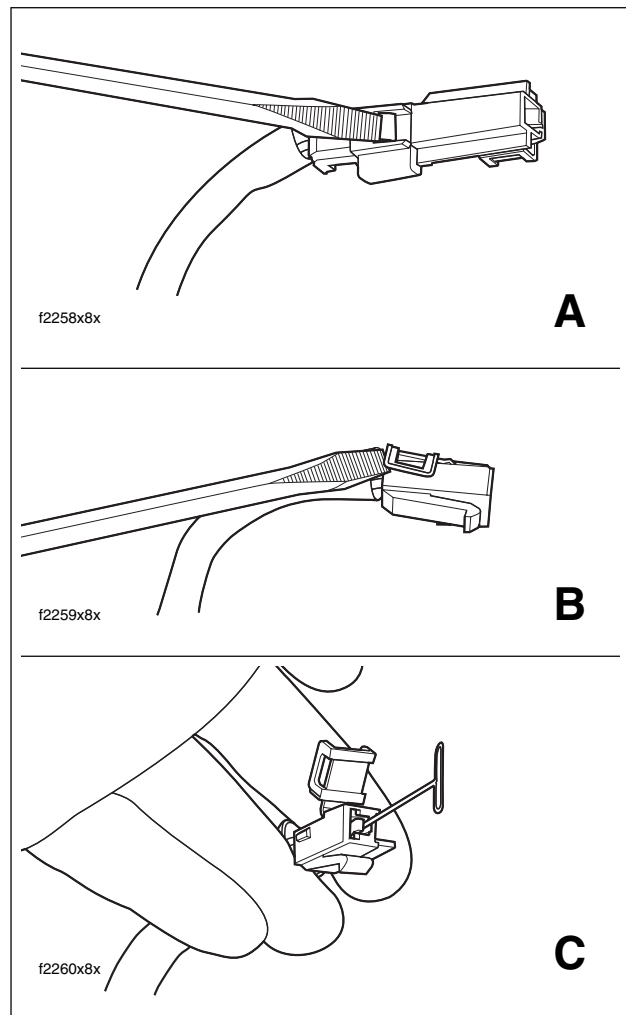

Figure 8-41. Remove Socket Terminal
5. Cut anchored cable strap to release accessory connector and B+ connector from left side of frame crossmember (in front of battery box). See Figure 8-41.
6. Using small flat blade screwdriver, depress button on pin housing (red wire) side of the connector and pull apart the pin and socket halves. See A of Figure 8-41.
7. Bend back the latch slightly and free one side of secondary lock, then repeat the step to release the other side. Rotate the secondary lock outward on hinge to access terminal in chamber of connector housing. See B of Figure 8-41.
8. On the mating end of the connector, note the tang in the square shaped opening centered next to the terminal. Gently insert the point of a stick pin or large safety pin into the opening between the tang and the chamber wall until it stops. Pivot the end of the pin toward the terminal body to depress the tang. Remove the pin and then pull terminal out wire end of connector housing. See C of Figure 8-41.
6. Install **new** anchored cable strap in lower hole on left side of frame crossmember (in front of battery box). Tighten cable strap to capture conduit of both accessory connector and B+ connector approximately one inch from connector housings. See Figure 8-41.